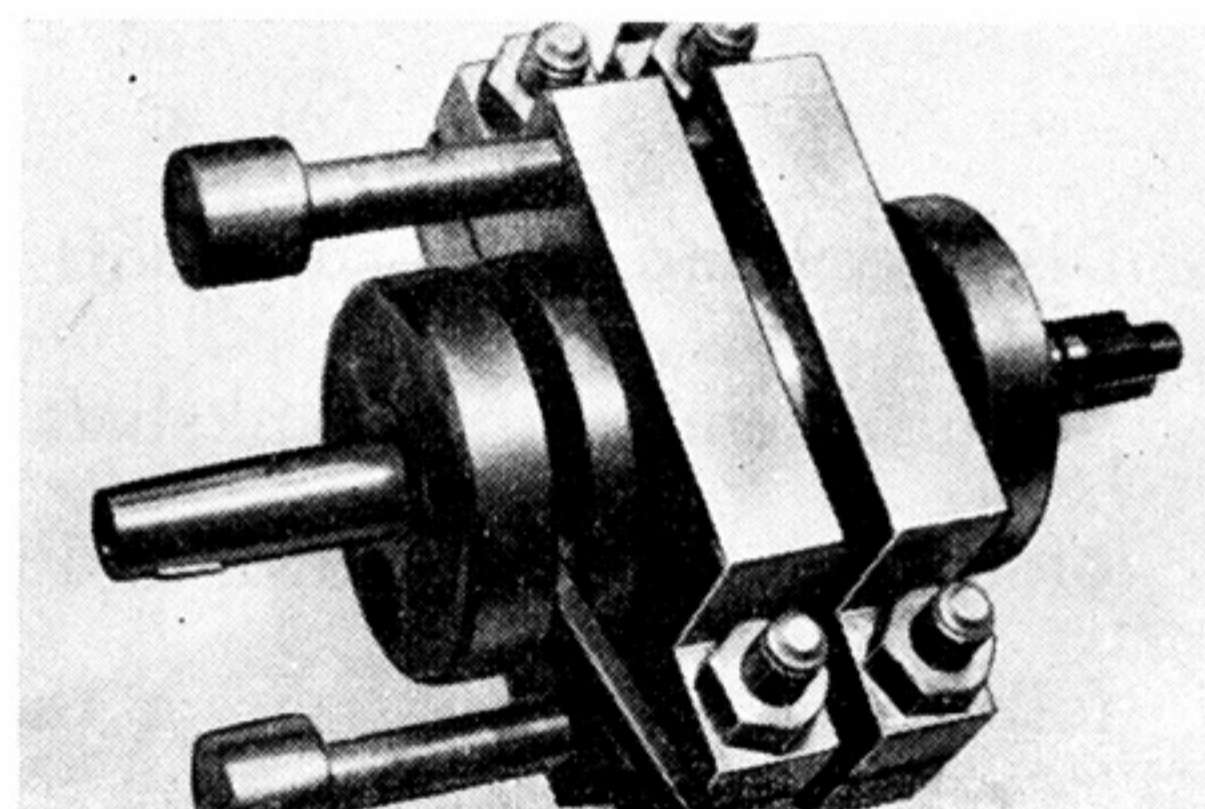

Fig. 3-16-7
- c. Fig. 3-16-7 shows the tools installed on the crankshaft ass'y. (Fig. 3-16-7)